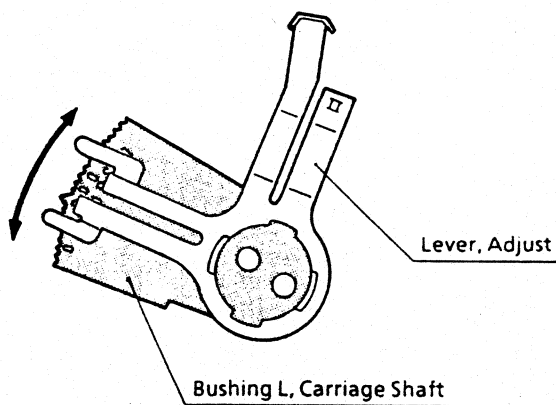

Fig. 3
* When a proper gap is not obtained, make adjustment by dislocating fitting of the carriage shaft bushing L and adjust lever. (Refer to Fig. 3)